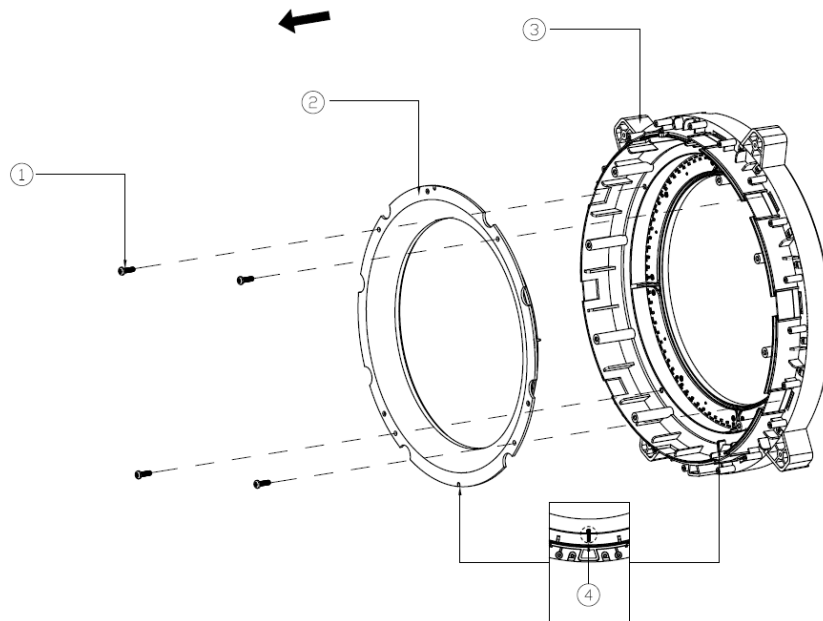

Figure 10-1
(10) Disassemble the Diffusion Ring and the Illumination Board
As shown in Figure 10-1, remove the 4 screws①, remove the Diffusion Ring②(RVM100-DIFSR) and the Main Body Support-Up Package③. The specification of the screw is the self-tapping screw, ST3*10mm.